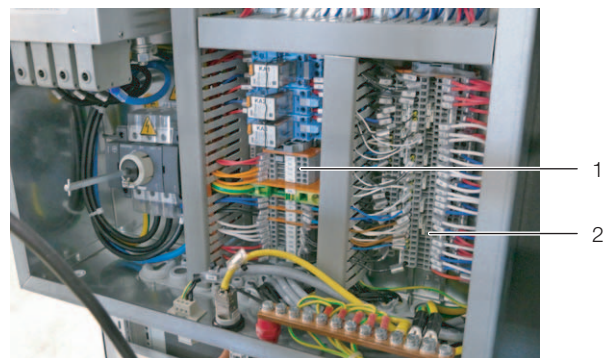

Fig. 31: Terminal strips X1A and X2A in the electronics box
In the electronics box at the terminal strip X1A, remove the jumper between the two terminals 30 and 80 ("Remote On-Off") and connect a floating remote switch (normally open contact) (fig. 31, item 1).